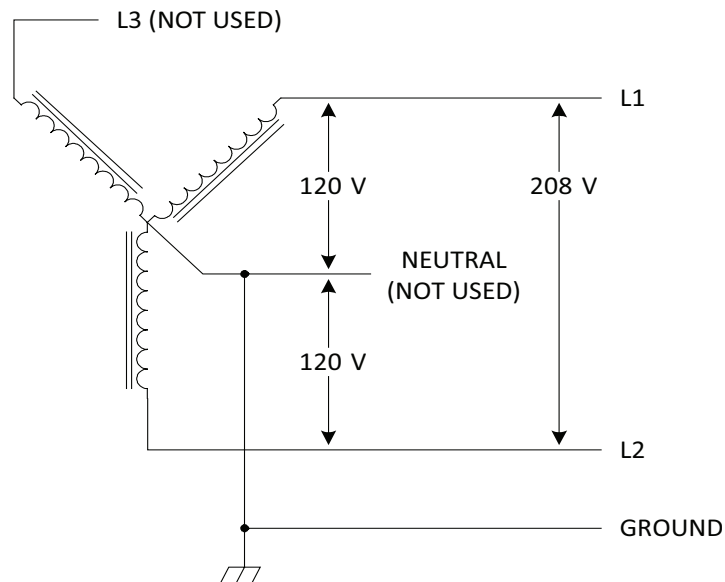

Figure 4: 208 V three-phase, wye-connected
**CAUTION:** If a 240 V three-phase feed is from a Delta-connected secondary, the leg used **must** have a center-tap. That tap **must** be Grounded. Only the two phases on either side of the center-tapped leg can be used. See Figure 4.